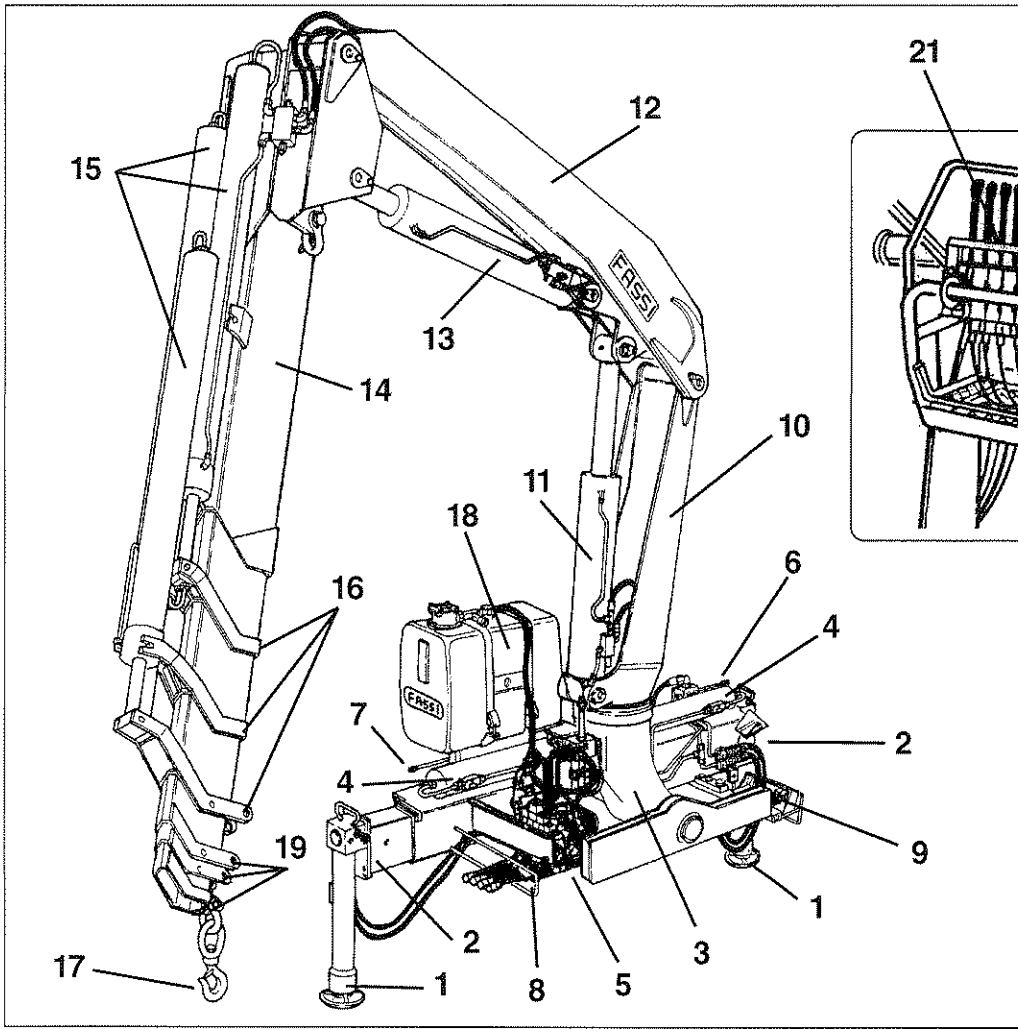

fig. 3
- Version with ground controls for crane and outriggers (fig. 3)